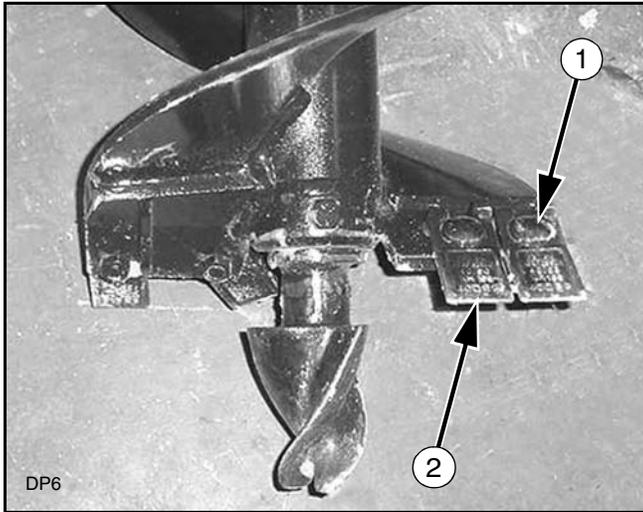

Figure 7. Cutting Edge Replacement
1. Remove the mounting bolt (1), Figure 7.
2. Replace tooth (2) while maintaining the same cutting angle.
3. Replace the mounting bolt (1) and torque to 85 lbs-ft. (115 N-m).